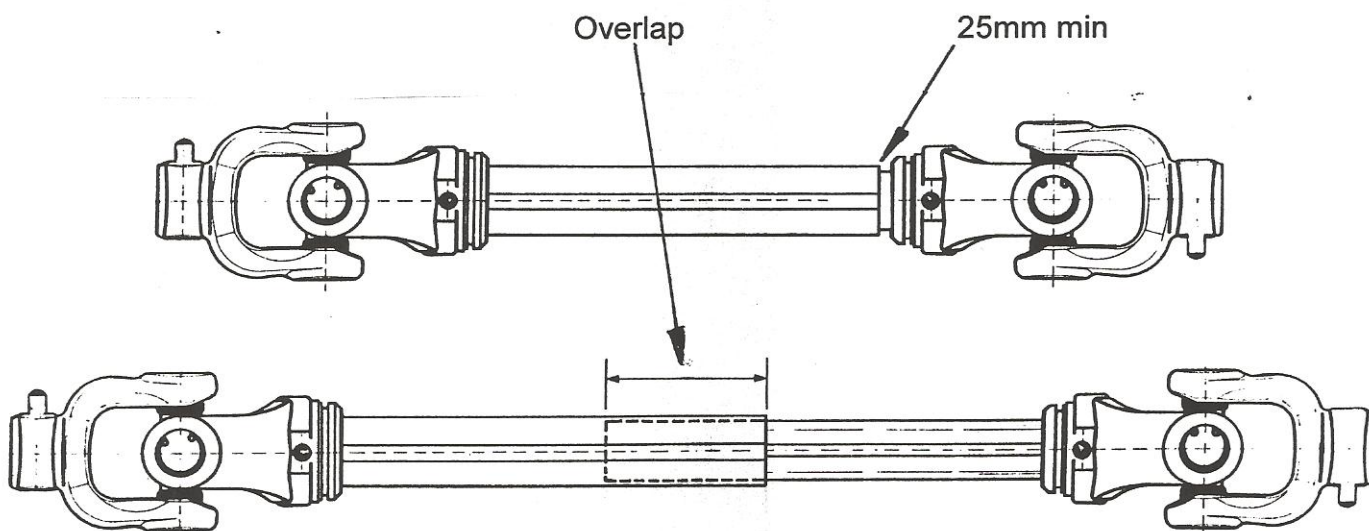

Figure 1 PTO Shaft
- 3] Measure the clearance between the end of the tube section and the yoke (see Figure 1). This should be at least 25mm (1 inch). If the clearance is less than 25mm then the shaft will need to be shortened as shown in Appendix 1. The tube overlap should be at least 150mm (6 inches). If the overlap is less than 6 inches then a longer shaft is required.